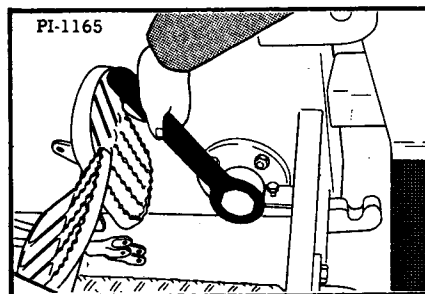

Fig. 67 Removing Oil Cap end of Axle
9. Remove the oil cap at the end of the axle (Figure 67).
8. Reinstall the cotter pin and dust cap on the inside end of the axle. Tighten the cap (Figure 67). Check the condition of the "o" ring seal.